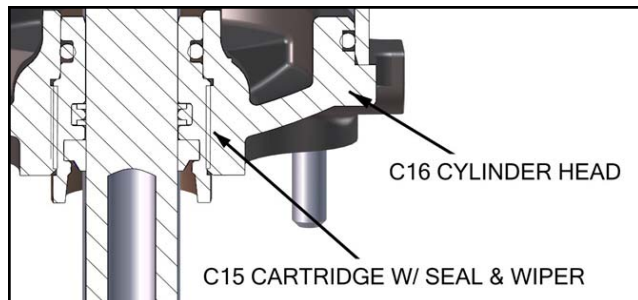

Figure 5—Rod Seal Detail
- d. **For type D cylinders**, remove cylinder seal cartridge assembly (C15). Use a spanner wrench to unscrew the cartridge assembly (C15) out of the cylinder head (C16). See Fig 5 and pages 9 and 10 for cylinder rebuild or replacement.